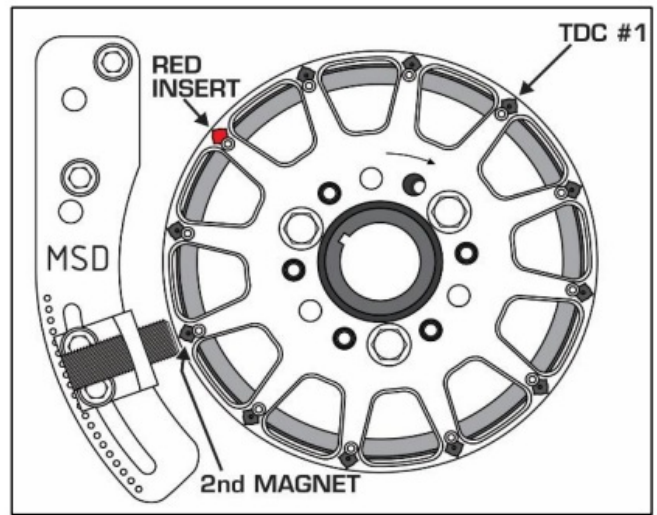

Figure 4: (Example) Aligning 2nd tooth, Passenger Side Mounting
4. Rotate the crank wheel until the 2nd-tooth (Magnet, black insert) after the red insert lines up with the approximate centerline of the sensor. Figure 4 show an example. The wheel was designed such that the bolt-holes on the wheel should line up to those of the balancer under these conditions. This should provide an ignition reference angle of 60° BTDC #1, assuming a standard key-way location on the crankshaft.